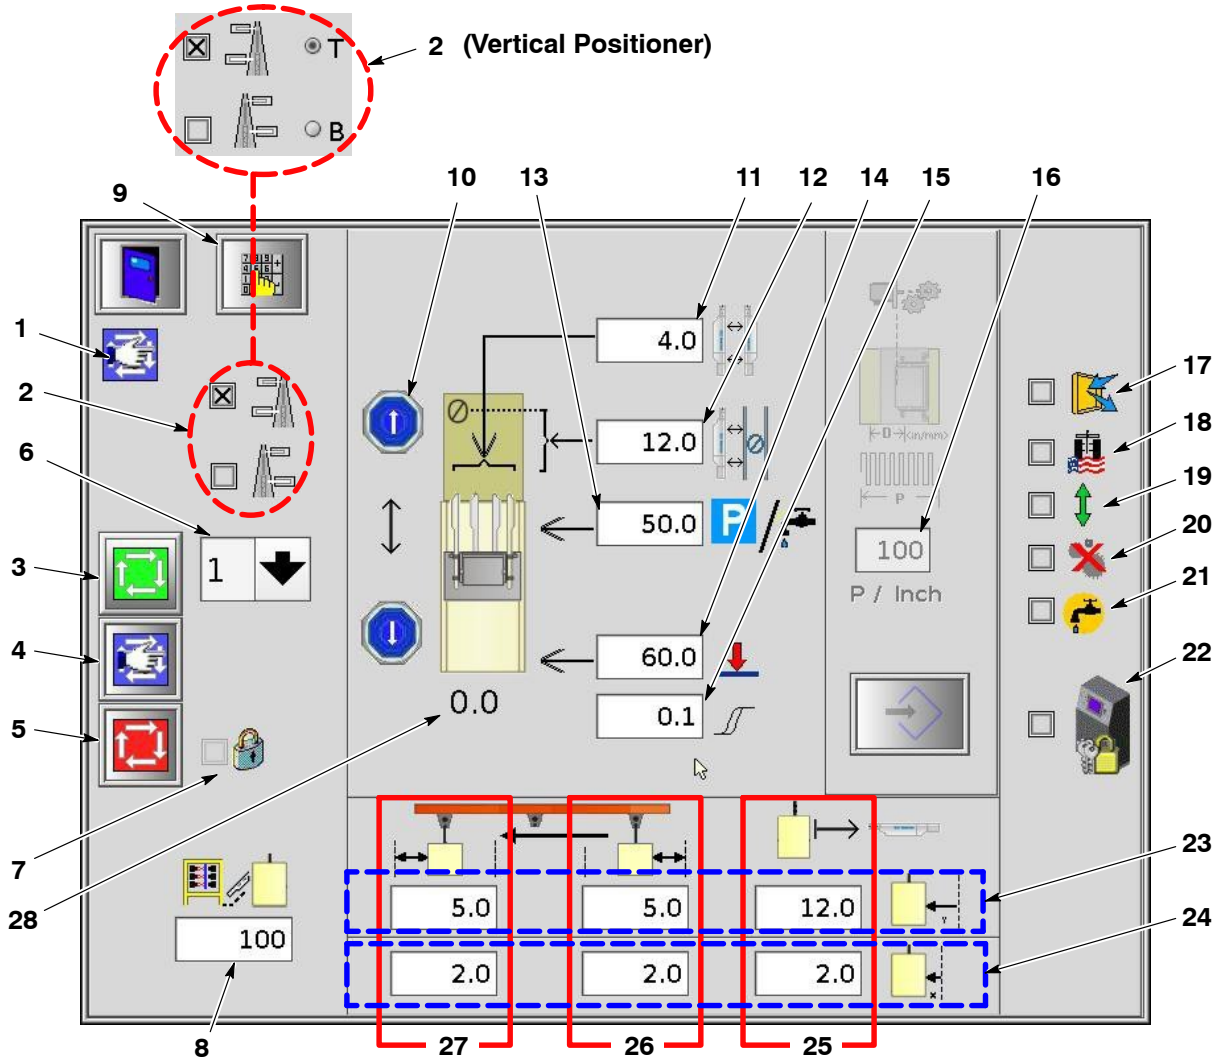

Figure 4-5 Positioner Configuration Screen
The following table describes the standard positioner configuration settings. Item numbers in parenthesis correspond to the item numbers in Figure 4-5. These settings apply to both horizontal or vertical positioners except where noted.
2. Calculate the vertical offset and enter it into the **Gun to Conveyor Centerline** setting (item 12 in Figure 4-5) as described in the following procedures.